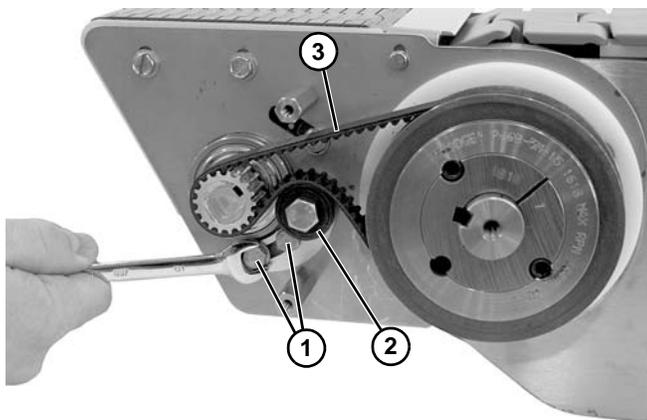

Figure 59
2. Loosen two hex head screws (**Figure 59, item 1**) holding tensioning pulley (**Figure 59, item 2**) onto timing belt (**Figure 59, item 3**).
3. Remove timing belt (**Figure 59, item 3**) from assembly.